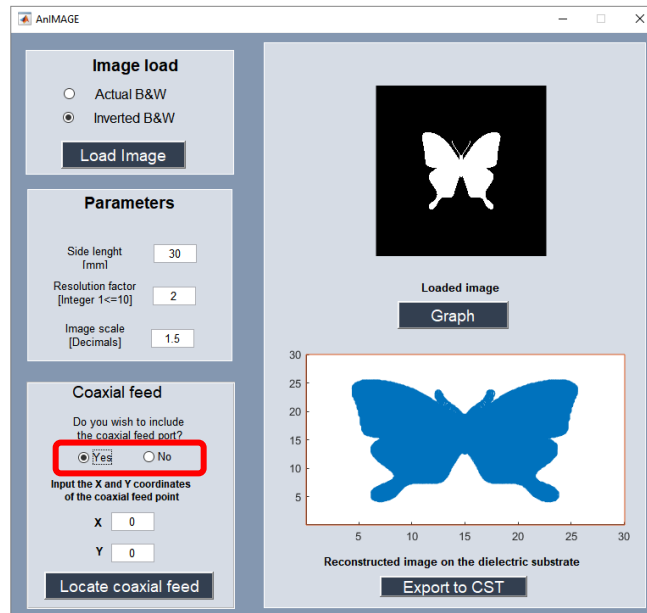

Figure 9. The user decides whether to add the coaxial feed to the designed antenna.
Step 3: Now, the Coaxial feed option is available. Then, the user has the option of adding the coaxial cable. In the proposed example, we choose the option yes, as shown in Figure 9.